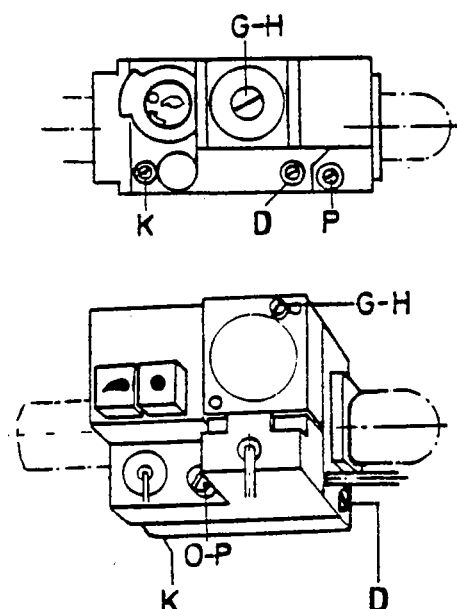

FIG. 7
- 9.3 Release but do not remove the screw in the pressure pick-up nipple D and connect a U-tube pressure gauge (fig. 7).
- 9.5 Remove the screw plug G from the pressure controller of the gas fitting to expose the adjusting screw H underneath and set the required nozzle pressure in accordance with the rating label, with that screw. Clockwise rotation = increase in pressure, anti-clockwise rotation = reduction of pressure (fig. 7).